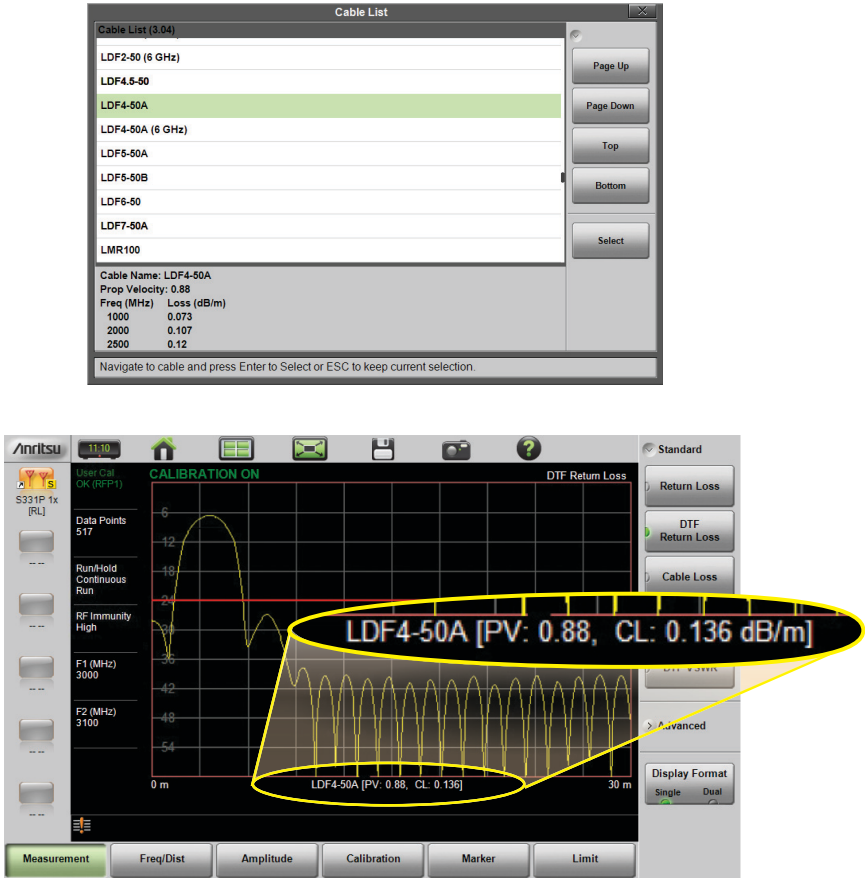

Figure 3-10. Cable List Selection
3. Open the cablelist.txt text file with Notepad or a spreadsheet editor such as Excel (see Figure 3-10 on page 3-15 for an example file shown in both applications).
The name, propagation velocity, and cable loss of the selected cable are displayed below the trace window during distance measurements (**Measurement** > DTF Return Loss or DTF VSWR) as shown in Figure 3-10.